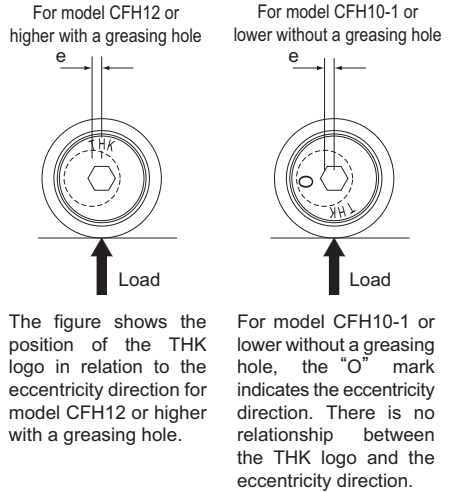

Fig.2
- (1) Insert the stud into the mounting hole, and lightly tighten the nut until the nut starts turning. In doing so, position the THK logo in relation to the load direction as shown in Fig.2.
- (2) Use the hexagon socket on the stud head to turn the stud and adjust the clearance between the stud and the mating contact surface.
- (3) After adjusting the clearance, tighten the nut while keeping the stud from turning. Be sure the maximum tightening torque in Table1 on A-889 is not exceeded.